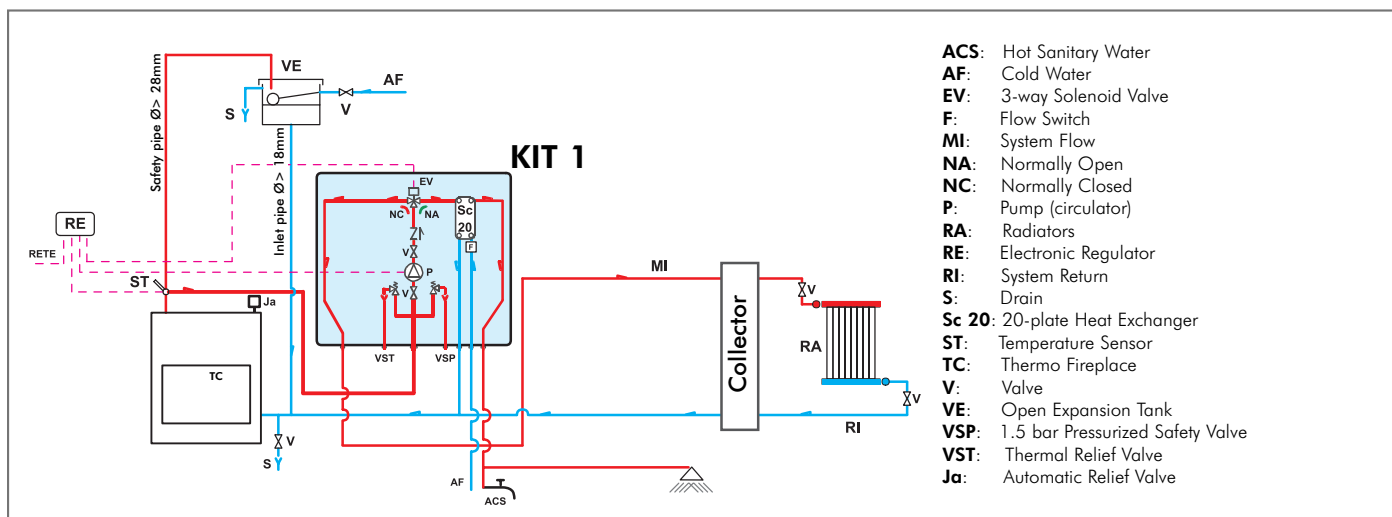

fig. 3
- Insert the "cold handle" door handle on the latch (see fig.3) and turn to open.